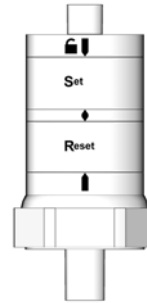

FIG. 1
1. Rotate the top portion of switch (with the lock and unlock symbols) to align the unlock symbol with the two white arrows (FIG. 1).